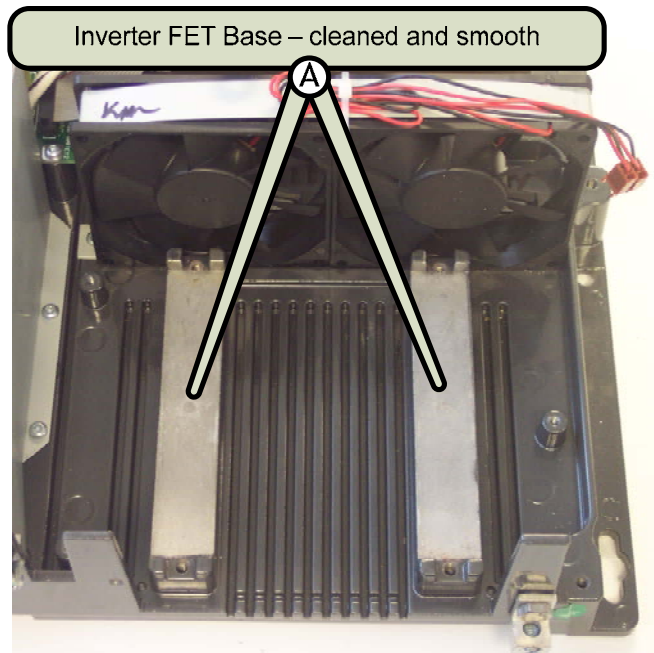

Figure 2, Inverter FET Base
3.1.8 After the FET board has been removed, remove any material (T-Gon™ insulator pads, tape, any metal particles, etc.) under the FET board or on the inverter base. The inverter FET baseplate should be clean (see figure 2).